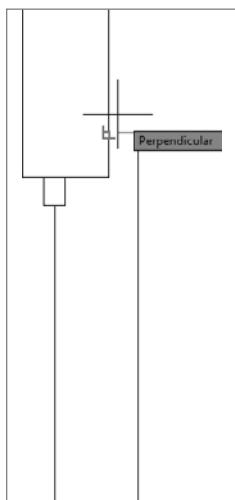

FIGURE 5.7 Use the Perpendicular osnap to draw the final line.
10. When the Perpendicular icon appears on the wall line, as shown in Figure 5.7, click to draw the top edge of the threshold.
T I P When using object snaps to locate points within a drawing, you do not need to select the osnap icon itself. Notice how the cursor in Figure 5.7 is located slightly above and to the right of the point AutoCAD found using the Perpendicular object snap. Regardless of where you select, a perpendicular line will be drawn to the point highlighted by the Perpendicular osnap icon.